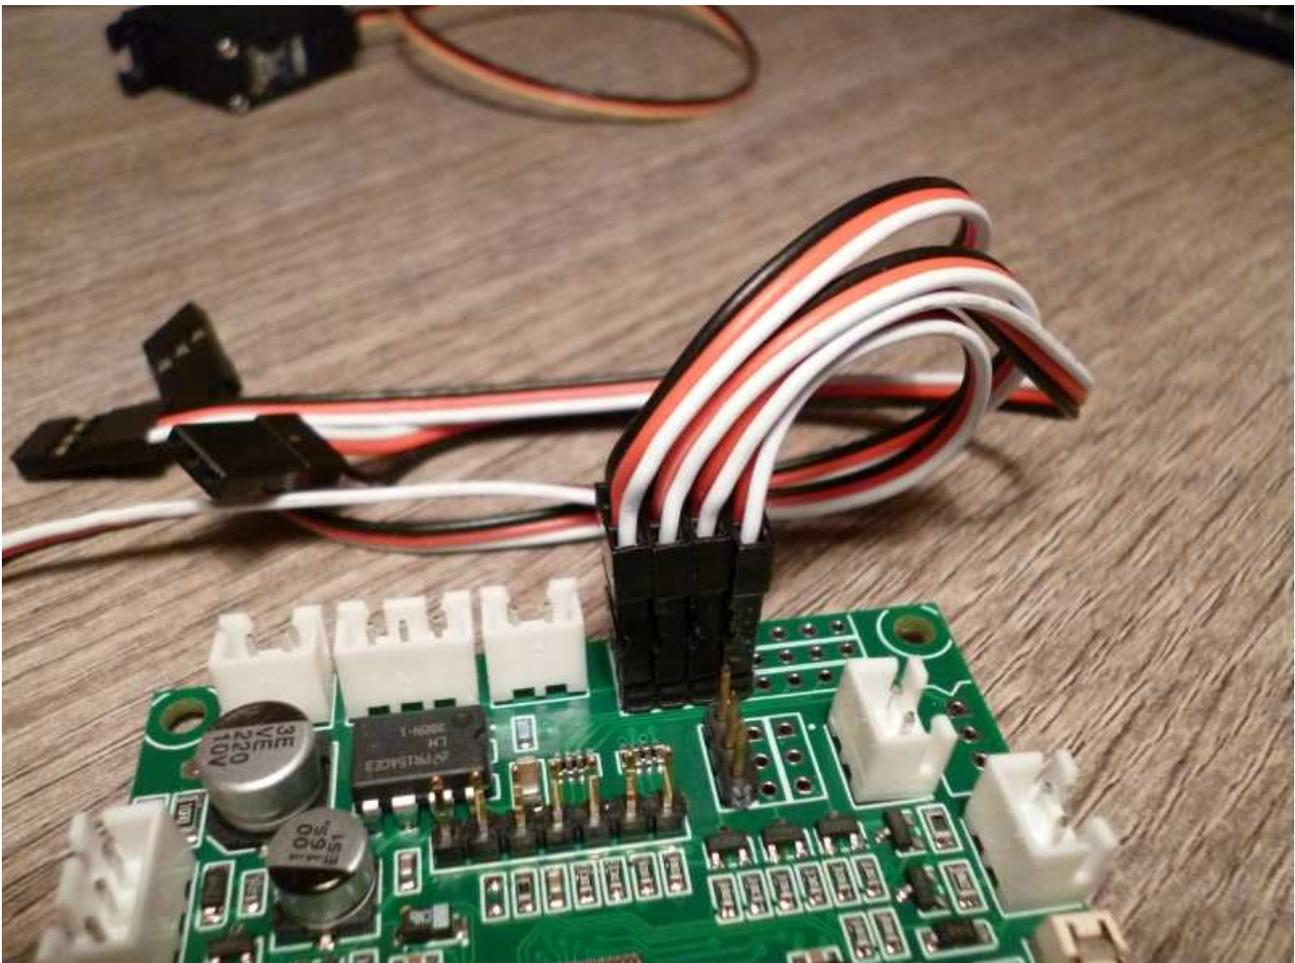

Fig. 7 Receiver cables
- Connect the receiver cables (Fig. 7) and verify that there's no Reverse or Dual Rate set on the transmitter channels.